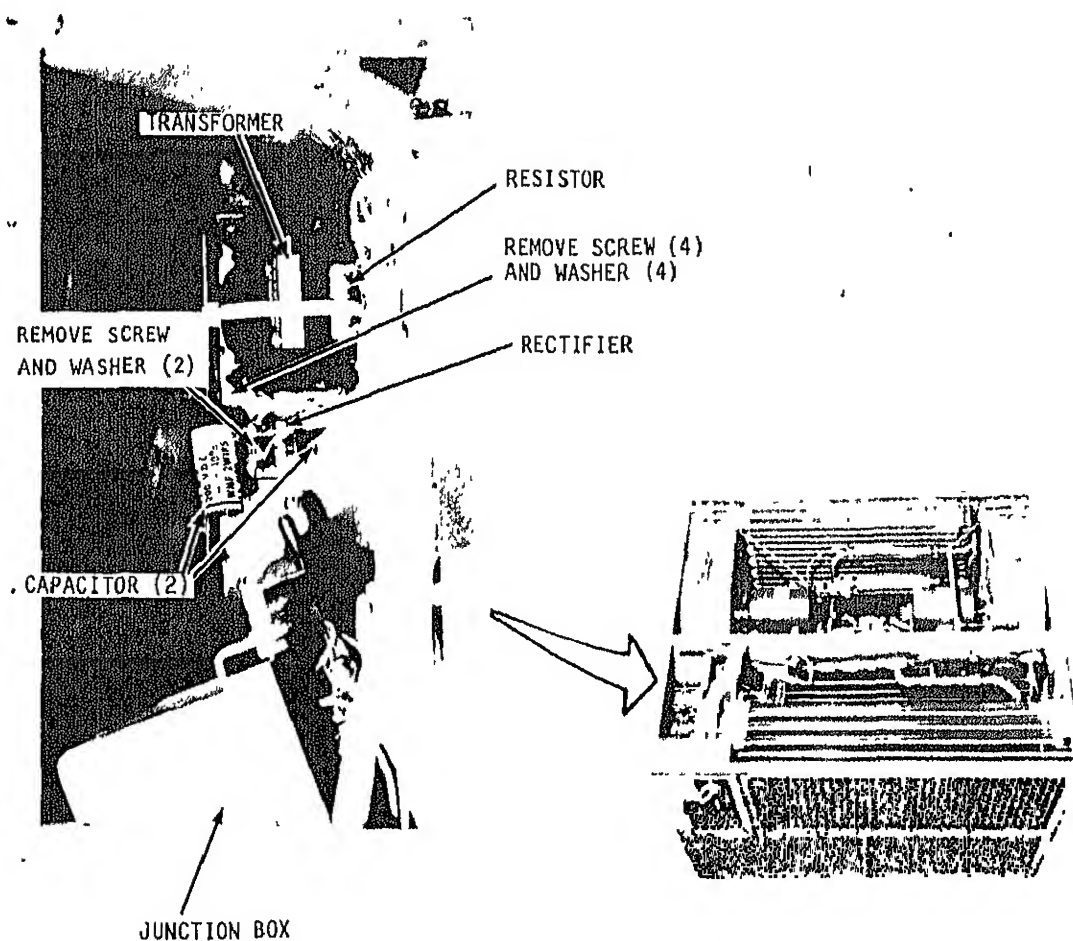

Figure 4-17. Transformer, resistor, rectifier and capacitors, removal and installation
(2) Refer to figure 4-17 and remove the transformer and resistor. Remove resistor from transformer if either is faulty when tested as follows:
(1) Refer to figure 4-17 and install the transformer and resistor.
(2) Refer to figure 4-17 and detach the cable from the rectifier.
(3) Remove the capacitors from the rectifier cable terminals.
(4) Remove the rectifier by removing the two mounting screws and washers.
(1) Refer to figure 4-17 and install rectifier.